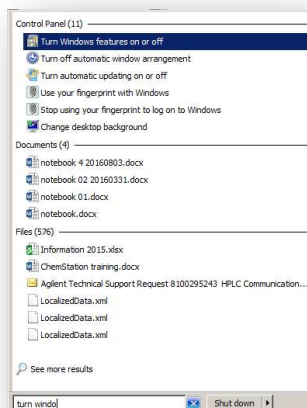

Figure 1b.
- i. In the Windows search box, type “Turn Windows features on or off...” it will populate under Control Panel and select it. (Please see figure 1b.)